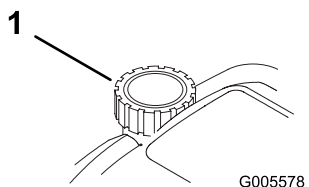

Figure 11
1. Clean around the fuel tank cap (Figure 11).